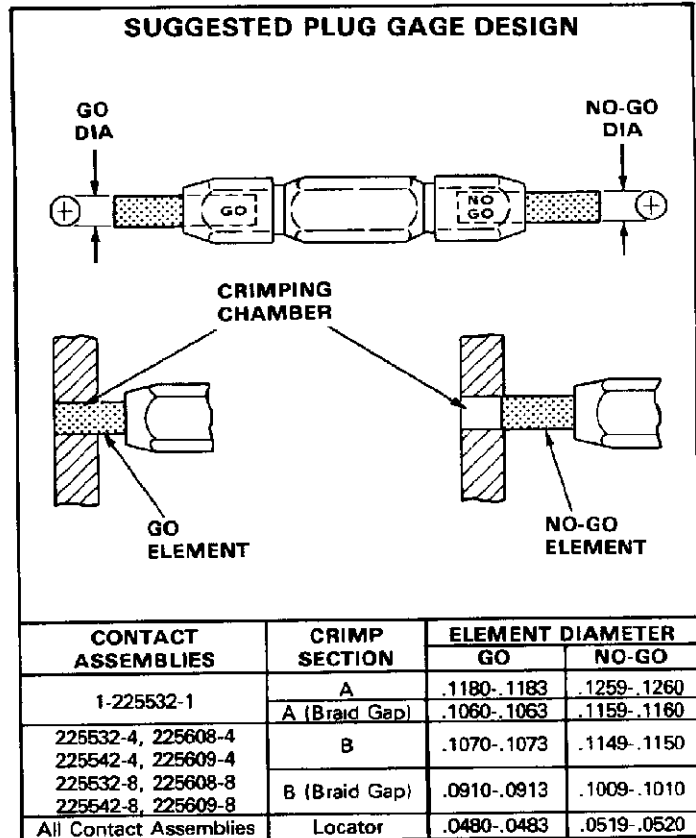

Fig. II-2
This inspection requires the use of a GO NO-GO gage conforming to the diameters in Figure II-2. AMP does not manufacture or market these gages.
2. Align the GO element with the wire barrel crimping chamber. Push element straight into the crimping chamber without using force. The GO element must pass completely through the crimping chamber as shown in Figure II-2.
3. Now align the NO-GO element and try to insert it straight into the same crimping chamber. The NO-GO element may start entry but must not pass completely through as shown in Figure II-2.
1. Select a connector and wire (maximum size) for the tool (see Figure II-2).